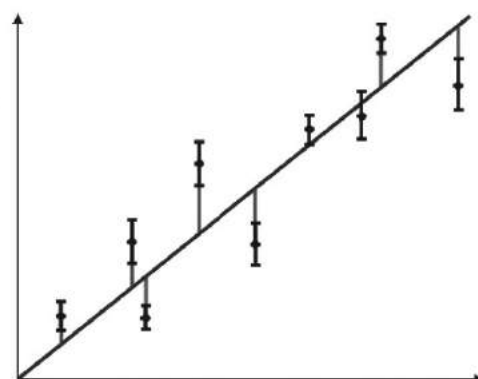

Figure 3: Example of deviations from the best fit line (blue).
Consider the distances from each point to the best fit line, as shown in **Figure 3**, also called the deviations. If a line is a really good fit, those deviations will be as small as possible. The Least Squares Fitting method attempts to minimize the square of the deviations. (Squaring the deviations makes the math far more manageable, where working with the absolute values of the distances would lead to discontinuous derivatives.) The sum of all of the squares of the deviations is called the residual, χ^2 (χ is pronounced “ky” to rhyme with “guy”), given by equation (1), where y_i are the data points and y_{true} is the y-value from the best fit line.